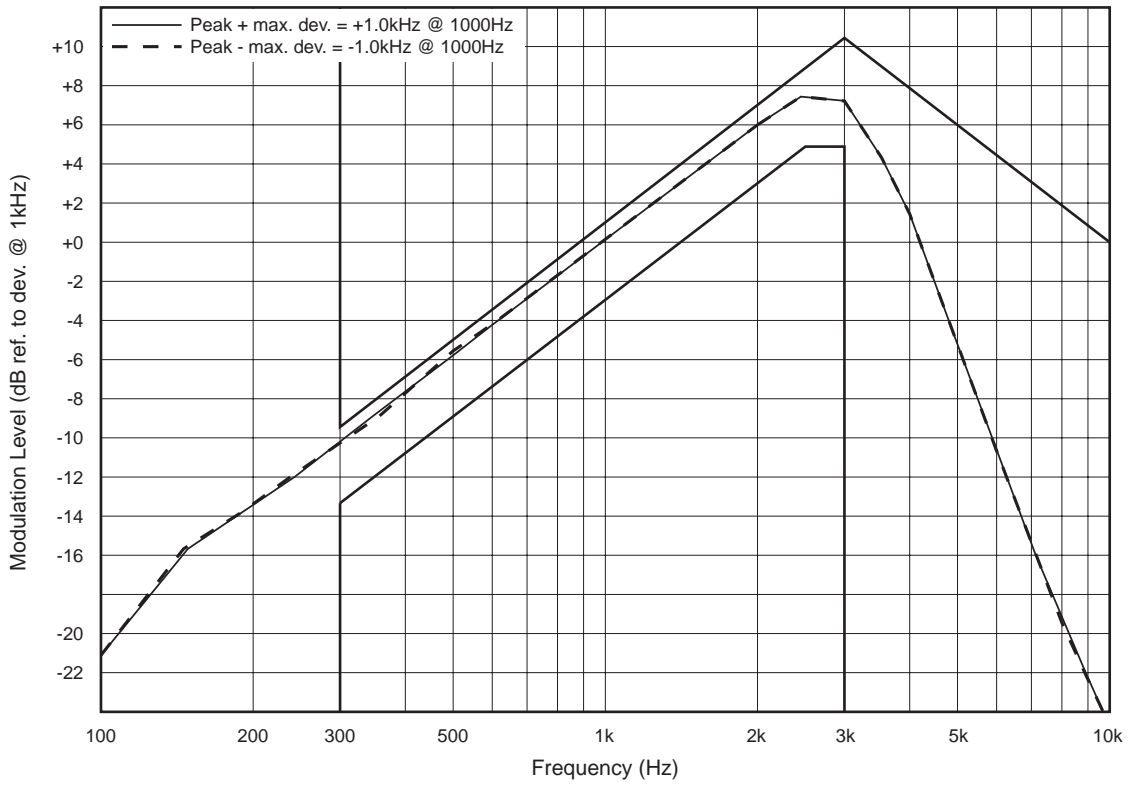
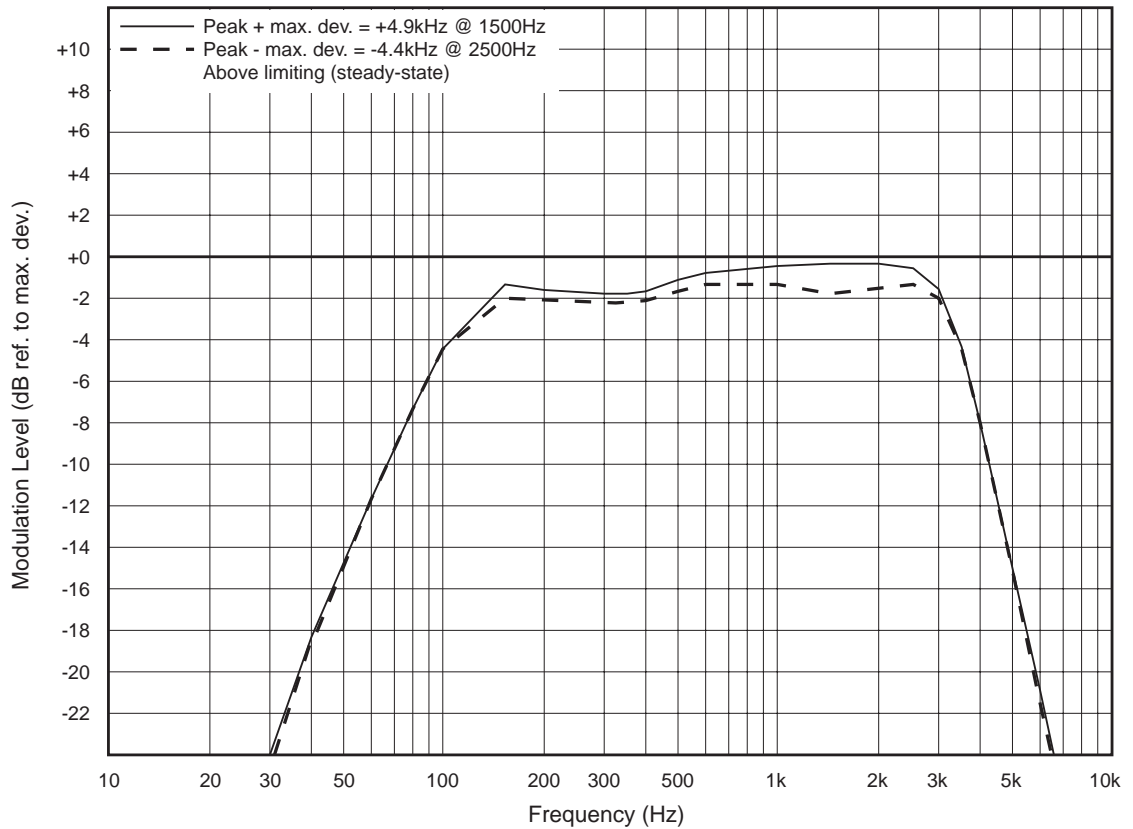

Figure 4.1 T856/857 Pre-emphasis Response
Figure 4.2 T856/857 Limiting Response
If the T856/857 has been correctly adjusted, the pre-emphasis and limiting responses should closely match those shown in Figure 4.1 and Figure 4.2 respectively.
- The response should closely match that shown in Figure 4.1.
- The response should closely match that shown in Figure 4.2.